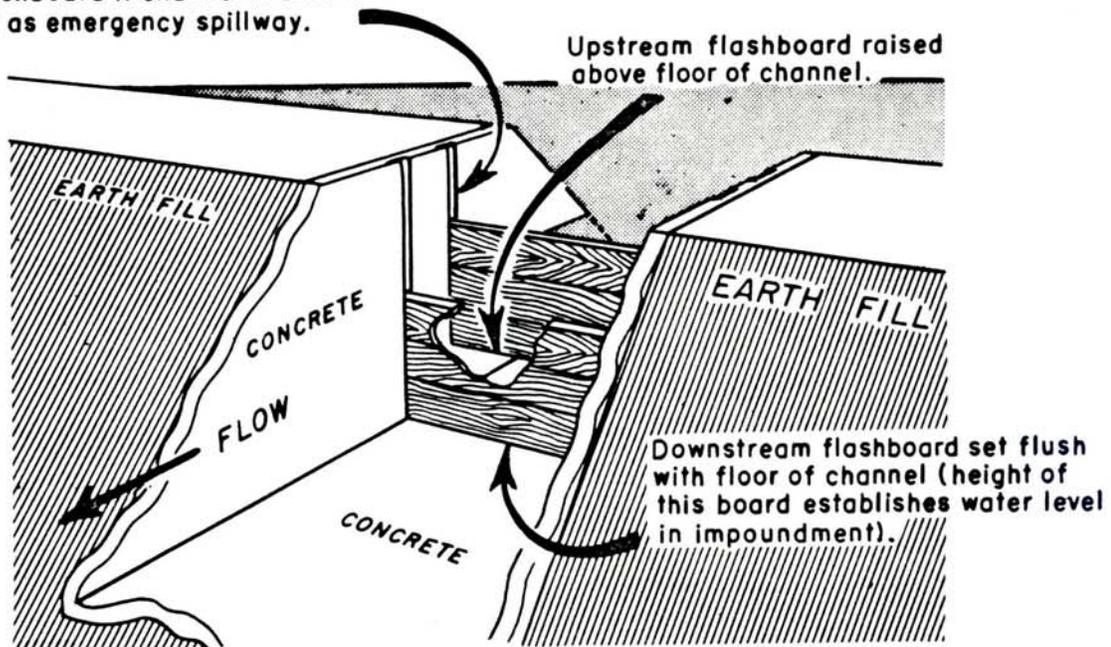

FIGURE 3 - Double Flashboard Installed in Concrete Spillway.
1. Water levels in impoundments stocked with trout and having a rectangular concrete outlet should be made with a double flashboard installation. (Figure 3.)